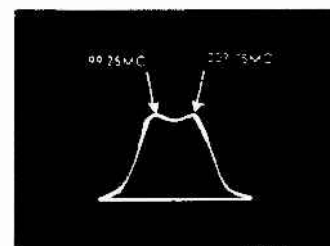

Fig. 20 Channel 11 RF Response.
6. Turn the channel selector to Channel 11 and adjust the sweep generator until a response somewhat similar to Fig. 20 is obtained. Adjust L5 and L6 to obtain symmetry. If the band pass is too great or too narrow also adjust L7.